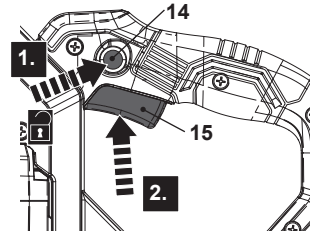

Fig. 19
1. Press the lock-off button (14) and hold it in position (Fig. 19, step 1).
2. Squeeze the on/off switch (15) to switch the product on (Fig. 19, step 2). Release the lock-off button (14) afterward.
3. Release the on/off switch (15) to switch the product off.